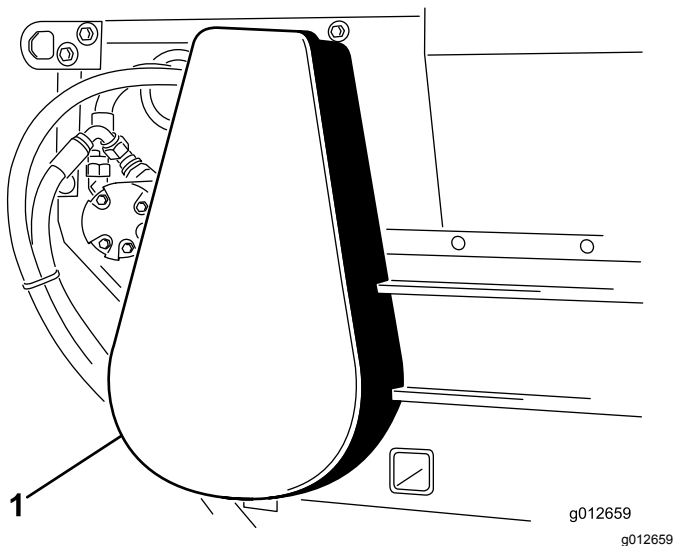

Figure 17
2. Remove the chain cover (Figure 17).
6. Install chain cover (Figure 17).